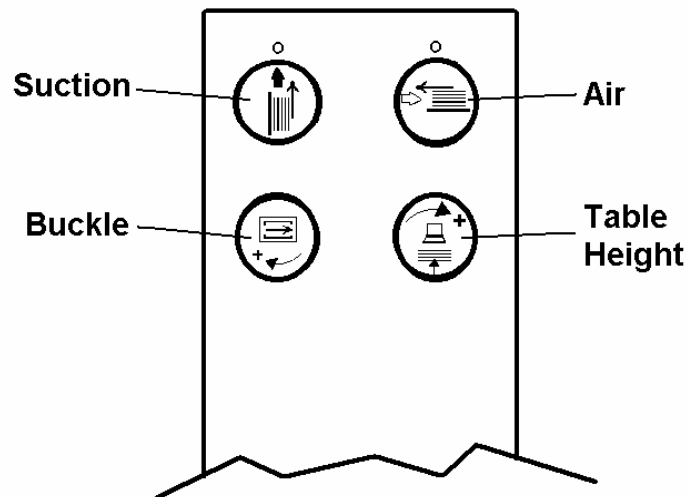

Figure 2
2. Adjust the table height adjustment knob [Fig. 2] on the duplicator by turning it fully clockwise and then 2 ½ full turns counterclockwise.]
3. Adjust the duplicator buckle control knob [Fig. 2] clockwise to full buckle.
4. Adjust the suction control knob [Fig. 2] to maximum.
5. Set the air control knob [Fig. 2] to # 3 on the dial.